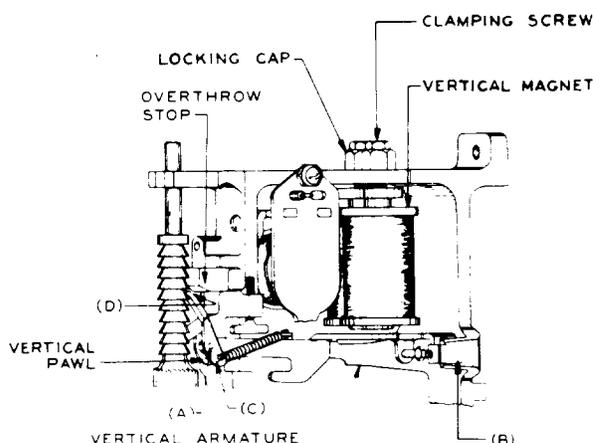

Fig. 14—Vertical Magnets and Associated Parts
**3.18 Vertical Pawl Play:** The pawl shall not bind nor have end play greater than 0.008 inch, (Fig. 14, location A). **Use the KS-6909 gauge.**
**3.19 Vertical Armature Play:** The vertical armature shall not bind nor have a sideplay greater than 0.016 inch (Fig. 14, location B). **Use the KS-6909 gauge.**
**3.20 Vertical Pawl Spring:** On switches equipped with vertical pawl springs having a single loop at one end, the opening in this loop, when attached to the vertical pawl, shall not exceed 0.078 inch (Fig. 14, location C). **Use the KS-6938 gauge.**
(a) **Minimum:** With the vertical magnets electrically operated and the double dog held away from the ratchet (Fig. 14, location D), there shall